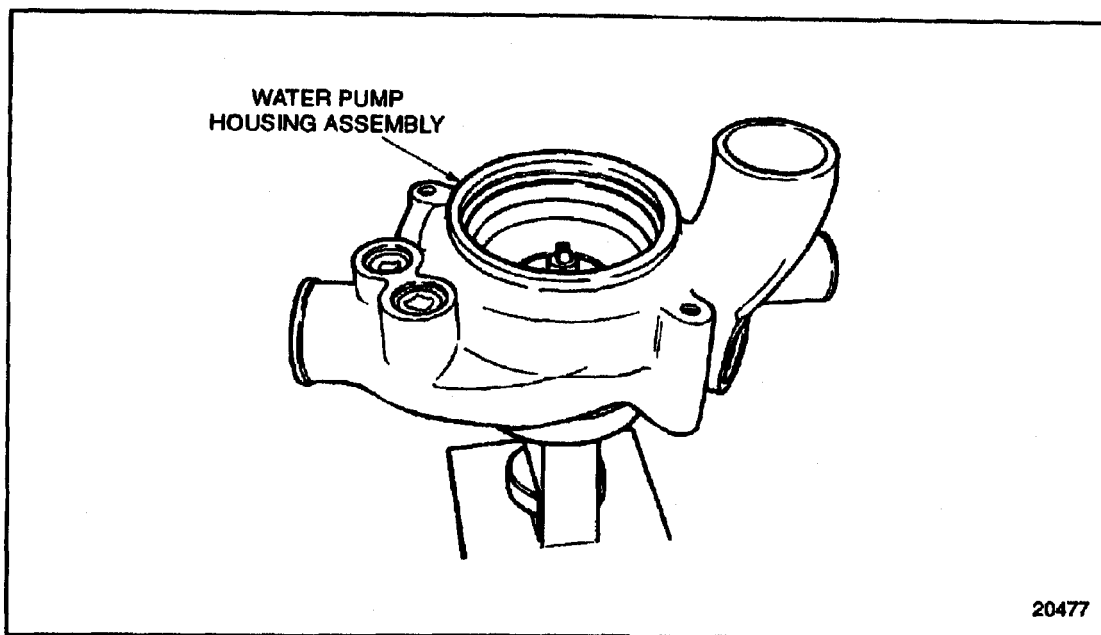

Figure 4-27 Water Pump Impeller Installation Set-up (GCM)
13. Install the water pump housing assembly to the fixture. See Figure 4-27.